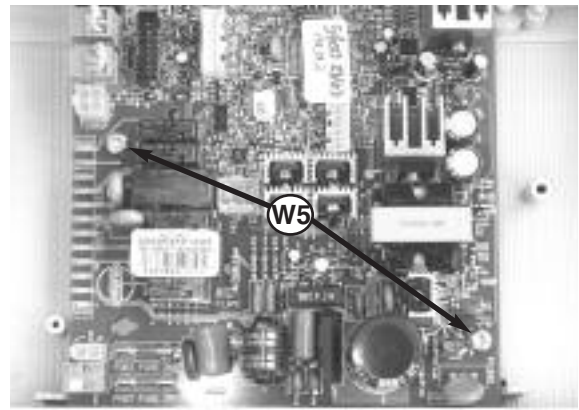

Fig. 104
8. To remove the main PCB disconnect all electrical connections and remove the two screws **W5** (see *Fig. 104*);